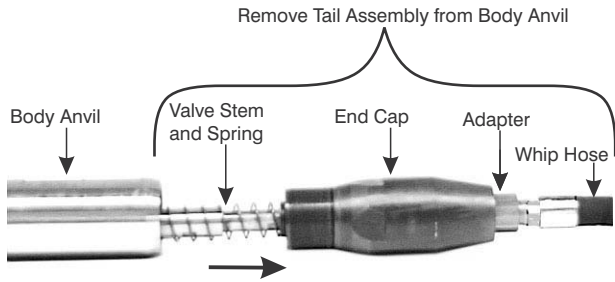

Figure 8-3. Removing the Tail Assembly
2. Remove the tail assembly by unthreading the End Cap (9) and pulling the tail assembly from the Body/Anvil (1) as shown in Figure 8-3.